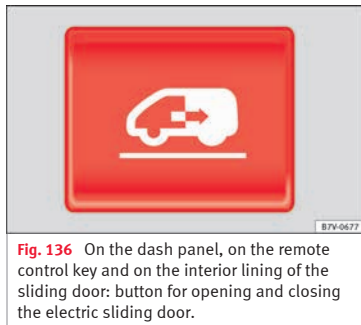

Fig. 136 On the dash panel, on the remote control key and on the interior lining of the sliding door: button for opening and closing the electric sliding door.
Opens the sliding door electrically.	Press the» Fig. 136 button on the dash panel, on the remote control key and on the interior lining of the sliding door. The sliding door opens with the rollback anti-trap function as long as the button is not pressed again.
Closing the sliding door electrically.	Press the» Fig. 136 button on the dash panel, on the remote control key and on the interior lining of the sliding door. The sliding door closes with the rollback anti-trap function as long as the button is not pressed again. As it closes, a warning sound is given.
- Press and hold the  » **Fig. 136** button.